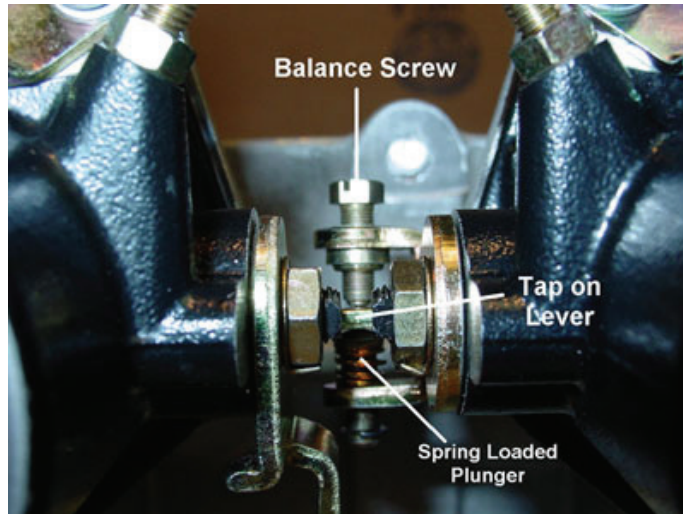

Fig.1
2. To rough set front to rear balance. Start by turning out the idle adjustment screw till throttles can be completely seated. Hold the rear throttle blades shut, compressing load plunger under balance screw. Turn in balance screw until it just contacts the balance tap on rear throttle lever. (Fig.1)
1. Using the Airflow Synchronometer, balance the front throttle assembly to the rear throttle assembly using the center balance screw. (Fig.1) Re-check idle rpm. Set if necessary.